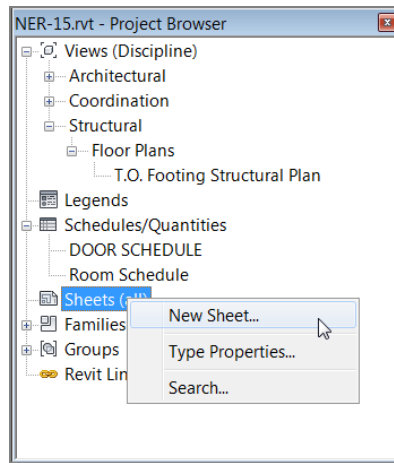

FIGURE 14.1: Selecting a new sheet
1. In the Project Browser, scroll down until you see the Sheets category, as shown in Figure 14.1.
2. Right-click Sheets, and select New Sheet (see Figure 14.1).